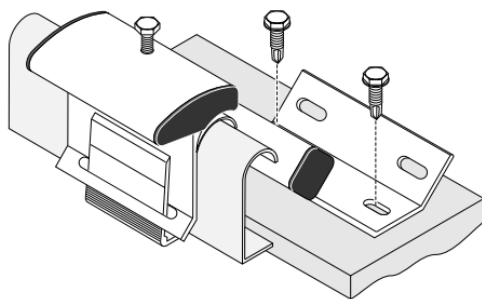

Figure 2
2. Align the magnet with the switch and use screws to attach it to the door as shown in Figure 2. The switch and magnet must be aligned within 1/2 inch of each other to prevent false alarms.